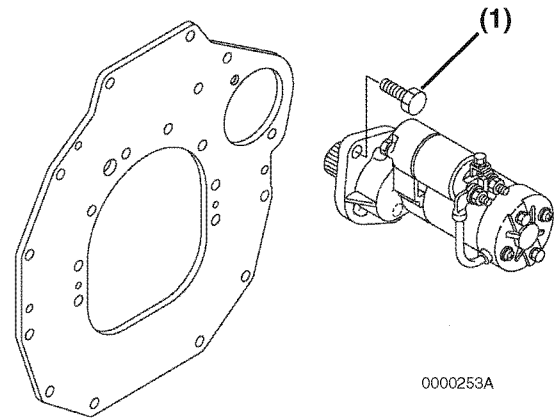

Figure 10-38
2. Install the two M12 bolts (**Figure 10-38, (1)**). Tighten the bolts to the specified torque.